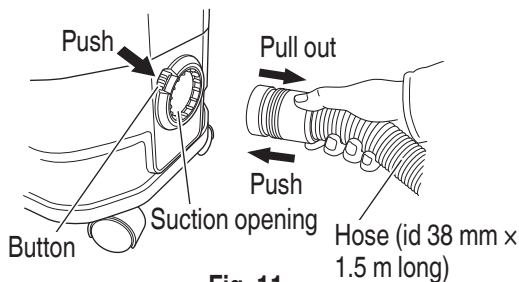

Fig. 11
1. Connecting the hose (see Fig. 11)